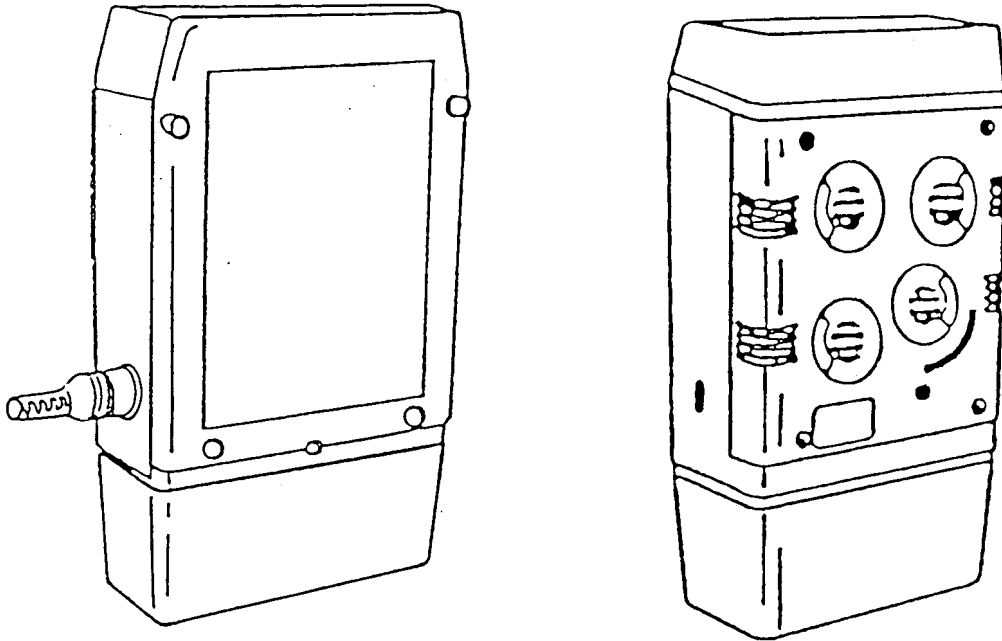

Figure 3-7: Calibration of an Oxygen Channel
- The OMNI-4000 calibration cover must not be in place. See Figure 3-7.